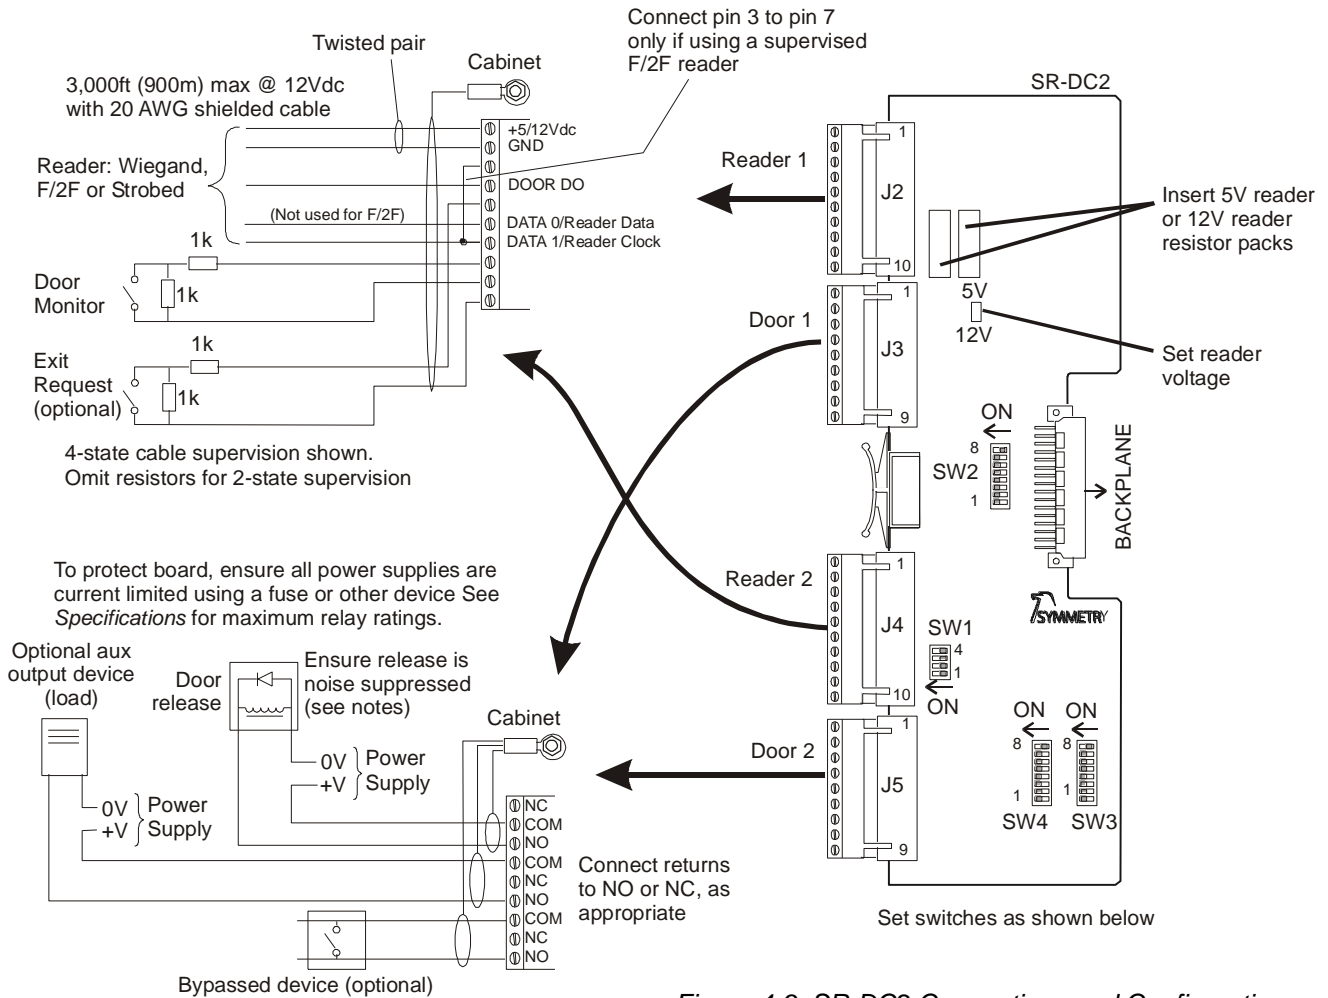

Figure 4-9: SR-DC2 Connections and Configuration
Figure 4-9 shows how to connect and set up the SR-DC2, including its address (1-4). The address must not be the same as any other SR-DC2 in the same node. Always set the address to the lowest-available value.
- Door releases or other inductive loads (including relays) must contain noise suppression circuitry (see Figure 4-9). Fit a metal-oxide varistor (MOV) across AC door releases and an IN4004 suppression diode across DC door releases. Some locks (e.g. Abloy Magneguard) already contain a suppression device and in these cases, no additional circuitry should be fitted, or the lock may fail.